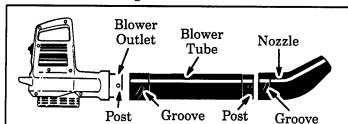

Figure 1
1. Locate the two posts on the blower tube. Figure 1.
2. Align the grooves on the nozzle with the posts on the blower tube. Figure 1.